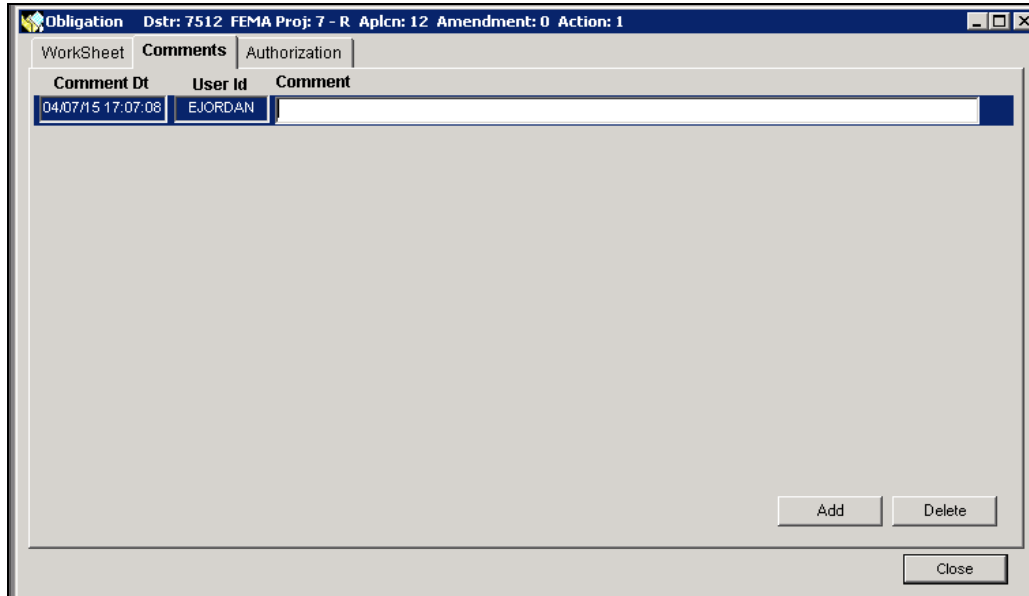

Figure 10-44: Comments Tab with New Row
- Click the **ADD** button. A new row for adding comments is displayed. The system auto-fills the User Name, the Date, and the Time of the entry (Figure 10-44).